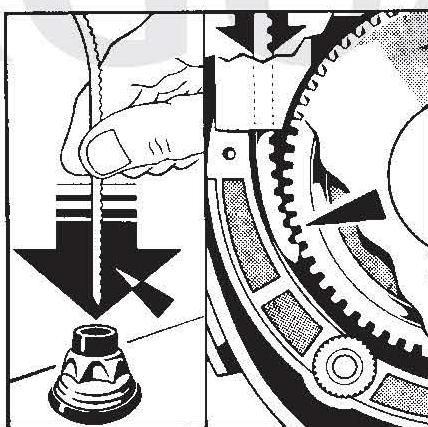

FIG. 4
4. Partially release the two screws securing each of the rear brackets (Service Bulletin JD 05/85 Item 38, Fig. 4) and slide the brackets sideways towards the panel edge. This will release the sliding panel from the runners.